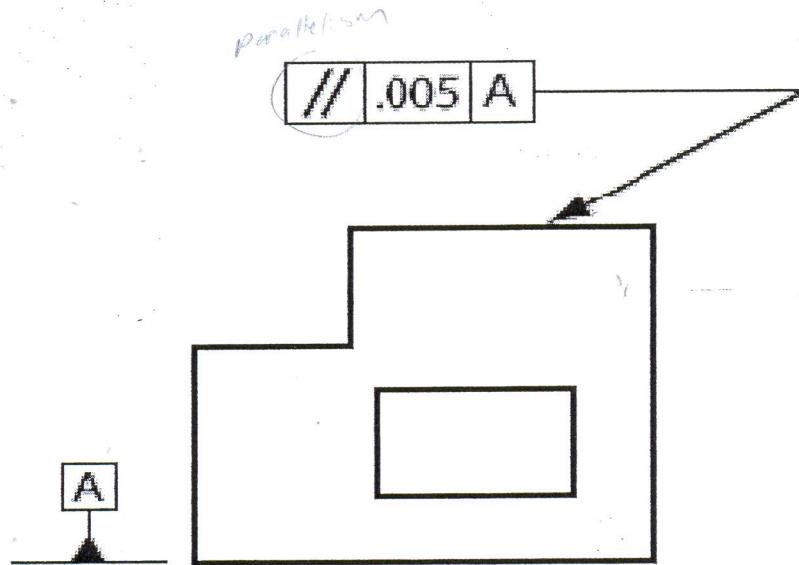

Figure 1.5: Drawing with the use of GD&T Symbols
- (f) Determine the type of GD&T control and its geometric characteristic in the following drawing as illustrated in Figure 1.5: